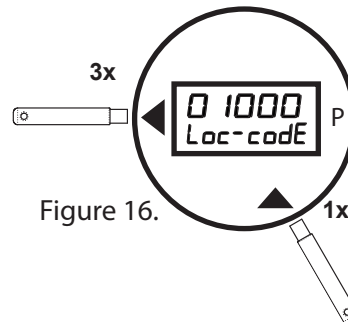

Figure 16.
- b. Pass the wand on the ◀ three times. The second digit from the left will flash (Figure 16).
- c. Pass the wand on the ▲ once. The display will increment from 0 to 1 (Figure 16).